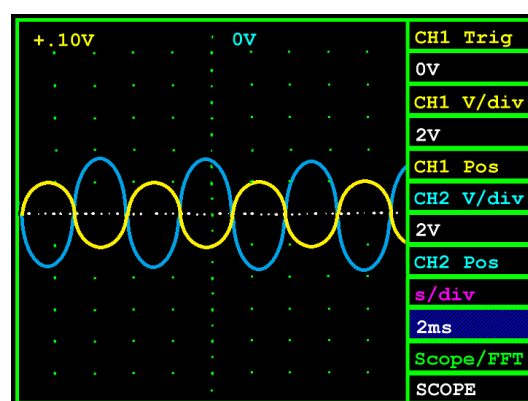

Figure 14: Example output for the inverting amplifier.
4. Notice the input resistors on the input in parallel. The equivalent resistance for the input is half the resistance of the feedback resistor. What is the gain? Adjust the function generator offset to center the waveform, and select sine wave output. Make the sine wave amplitude $2 V_p$. Verify your gain calculation by comparing the output voltage to the input. **Figure 14** shows how the output should appear.